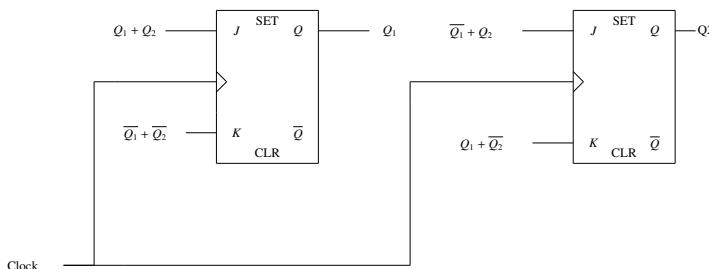

Fig. 5.23
23. A 2-bit synchronous counter using two J-K flip flops is shown in Fig. 5.23. The expression for the inputs to the J-K flip flops are also shown in the figure. The output sequence of the counter starting from $Q_1 Q_2 = 00$ is GATE-IN2018,44